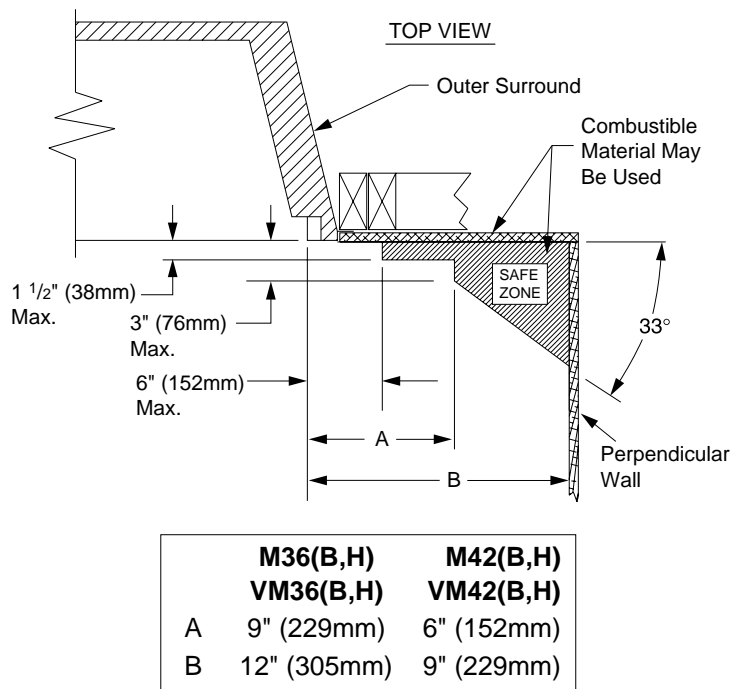

Figure 6 - Side Clearances - Top View (Cross Section)
- Perpendicular Wall See Figure 6, page 7